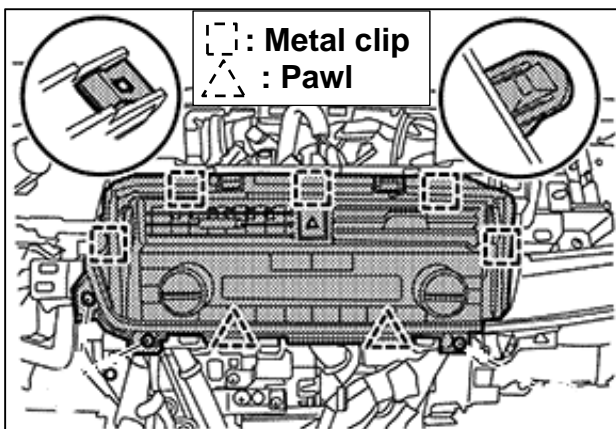
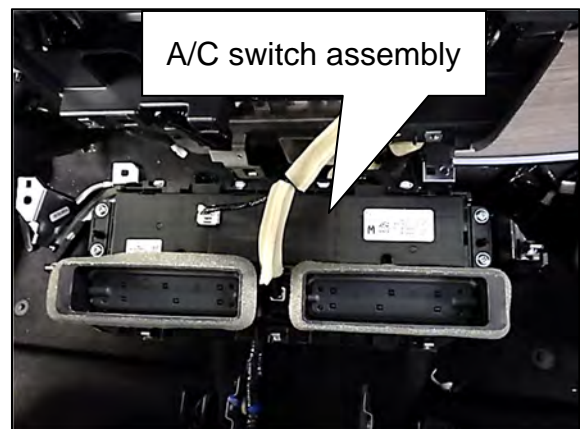

Figure 98
Figure 99
67. Disengage the two (2) A/C switch assembly fixing pawls and five (5) metal clips (Figure 98), and then pull out the A/C switch assembly (Figure 99).